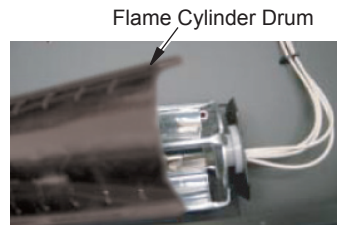

Figure 8 - Flame Generation Cylinder Drum
6. Locate flame generation cylindrical drum, Figure 8.